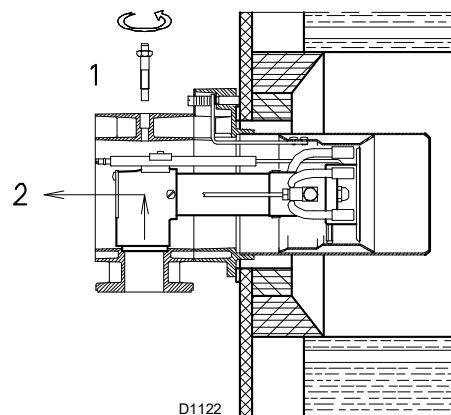

Fig. 11
- Remove screw 1)(Fig. 11) and extract the internal part 2);